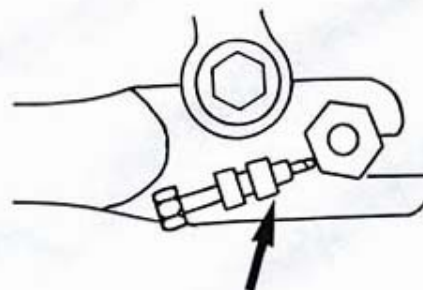

Fig. 4
- The adjusting of the chain is carried out by means of the chain adjusters situated at the end of the swing arm. Don't forget to loosen the wheel axle nuts (8mm wrench) (fig. 4).